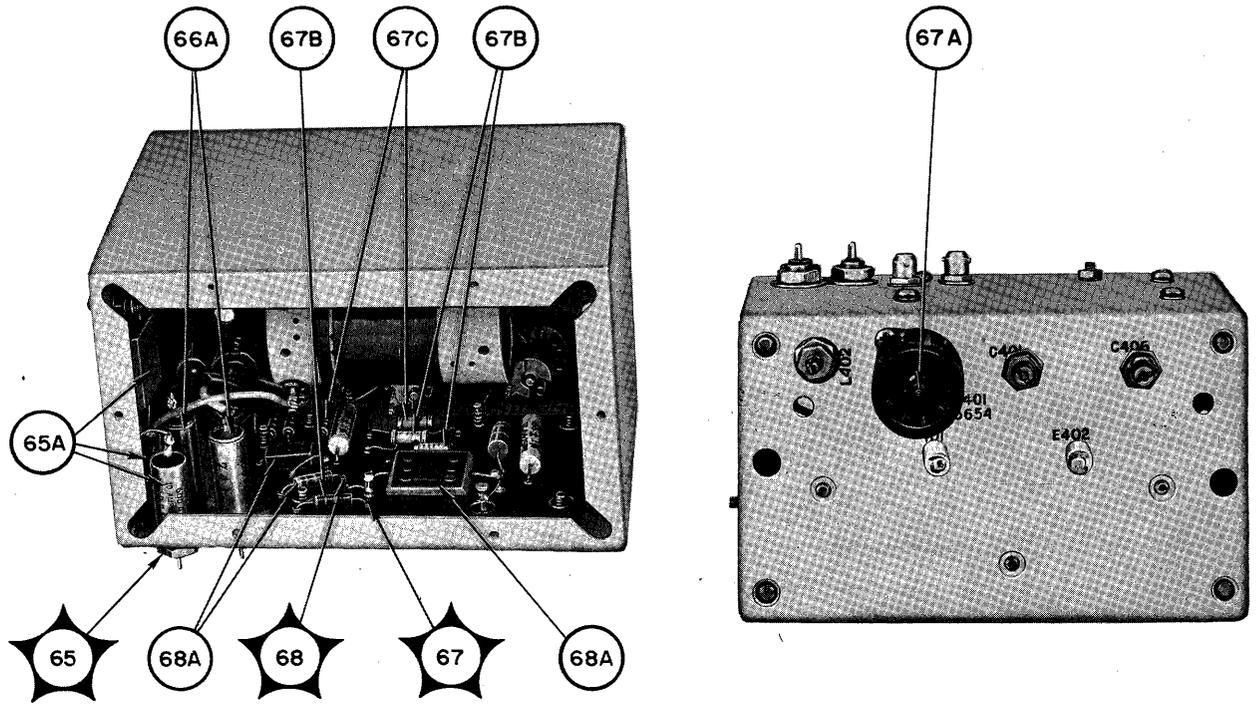

Figure 5-43. Interpolation Oscillator, Location of Test Points
- (1) Seating of tube V401 in its socket
- (2) Cable connections at J401 and J402
- (3) All soldered connections at chassis feed-through terminals.
f. INTERPOLATION OSCILLATOR TROUBLE-SHOOTING CHART.—Measure the dc supply voltages before checking for normal oscillator operation. The interpolation oscillator generates signal frequencies of 580 kc to 680 kc regardless of the BAND switch position; therefore, the setting of the TUNING $\Delta F=100$ KC control is not important. Figure 5-43 shows the location of subassembly test points. Voltage and resistance measurements for V401 socket pins follow: